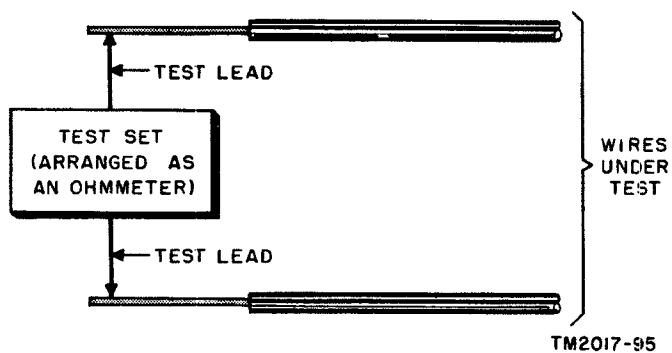

Figure 34. Simplified test setup for measuring insulation resistance.
c. Connect one test lead to each wire of the pair under test as shown in figure 34.